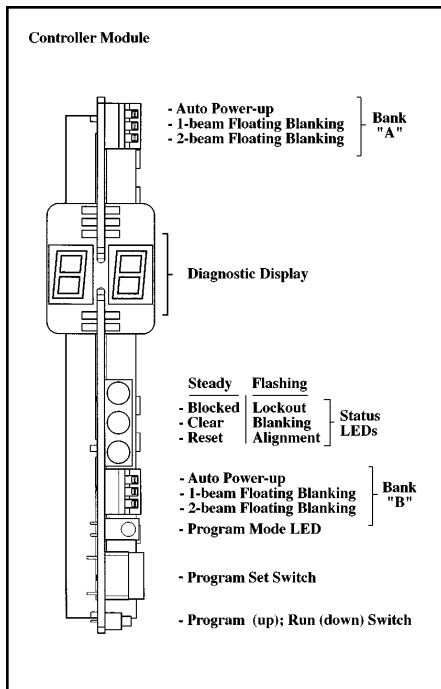

Figure 22. Controller Configuration Switches
- 4) **The fixed blanking feature may be programmed** if beams are blocked by one or more fixed objects. Fixed blanking requires an emitter/receiver pair with 16 or more beams (see page 6). Fixed blanking is limited to a maximum of 12 beams or 30% of the total number of beams, whichever is less (see chart at left). Programming of fixed blanking involves a simple "teaching" process, and is accomplished using the diagnostic display and the "Program Switches" located on the controller module (Figure 22).
- b) Make sure that Auto Power-up and Floating Blanking programming switches (also located on the controller module, Figure 22) are all turned to "OFF" (i. e. to the right-hand position).
- c) Make sure that the Program/Run switch (Figure 22) is in the Run (down) position
Move the Program/Run switch on the controller to the Program (up) position (Figure 22). The yellow indicator will go off. The Program Mode LED will flash and the Diagnostic Display will indicate the total number of beams blocked.
When satisfied that the number of beams blocked is stable, push the Program Set Switch push button on the controller (Figure 22) for about 1 second and release. If the programming is accepted, the Program Mode LED will stop flashing and glow steadily.